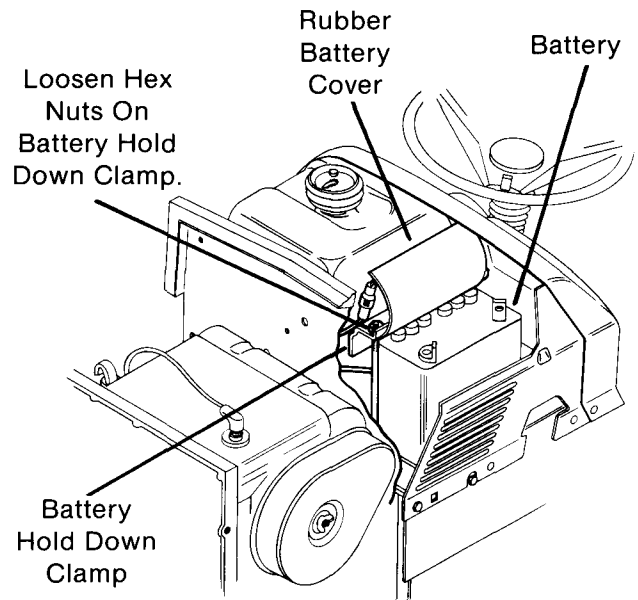

FIG. 37
- Loosen (do not remove) two hex nuts on battery hold down clamp. (Fig. 37)